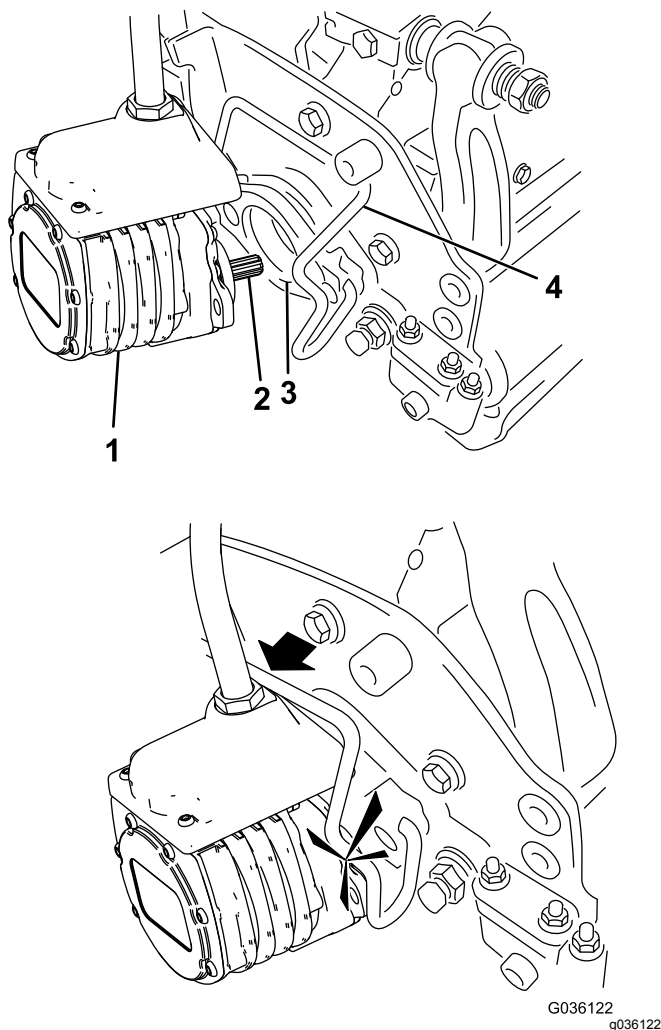

Figure 33
6. Coat the spline shaft of the cutting unit motor with clean grease (Figure 33).
7. Insert the motor into the left side of the cutting unit (as viewed from the operator's position) and pull the motor retaining bar on the cutting unit toward the motor until you hear a click from both sides of the motor (Figure 33).